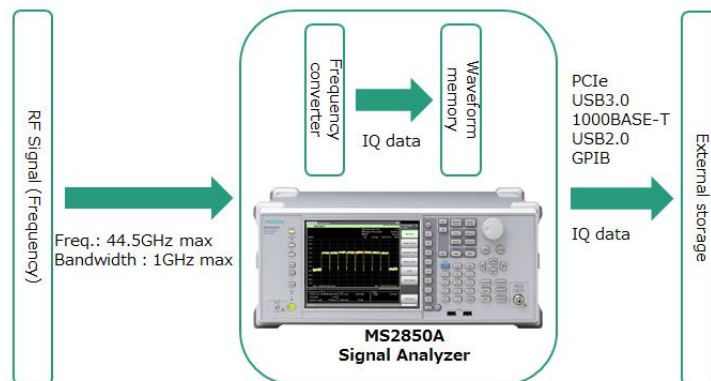

Figure 1.2-1 Flowchart of RF signal digitizer using MS2850A
Generally, digitizers have a function for collecting physical parameters (temperature, strain, rpm, frequency, etc.) converted to voltage as digital data. The MS2850A is a superheterodyne signal analyzer, converting inputted RF signals to Intermediate Frequency (IF), then capturing as digital data. As shown in Fig. 1.2-1, the MS2850A is composed of a frequency converter and a waveform memory, and allows RF signal data acquisition without an external down-converter. In addition, the MS2850A can also capture transient phenomena, such as momentary spectrum abnormalities, that cannot be captured by sweep-type spectrum analyzers. It can monitor signals for longer capture times to help easily troubleshoot the causes of transient responses and bugs, which helps improve development efficiency.